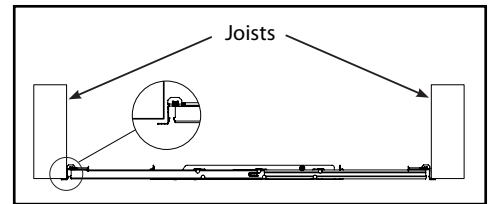

Fig. 2
2. If the new construction pan is too large to initially fit between joists, remove bar hangers and switch them from the long side to the short side of the pan by bending tab out and sliding the bar hangers apart. Move bar hangers to the short side of the pan and slide them back together (Fig. 2).